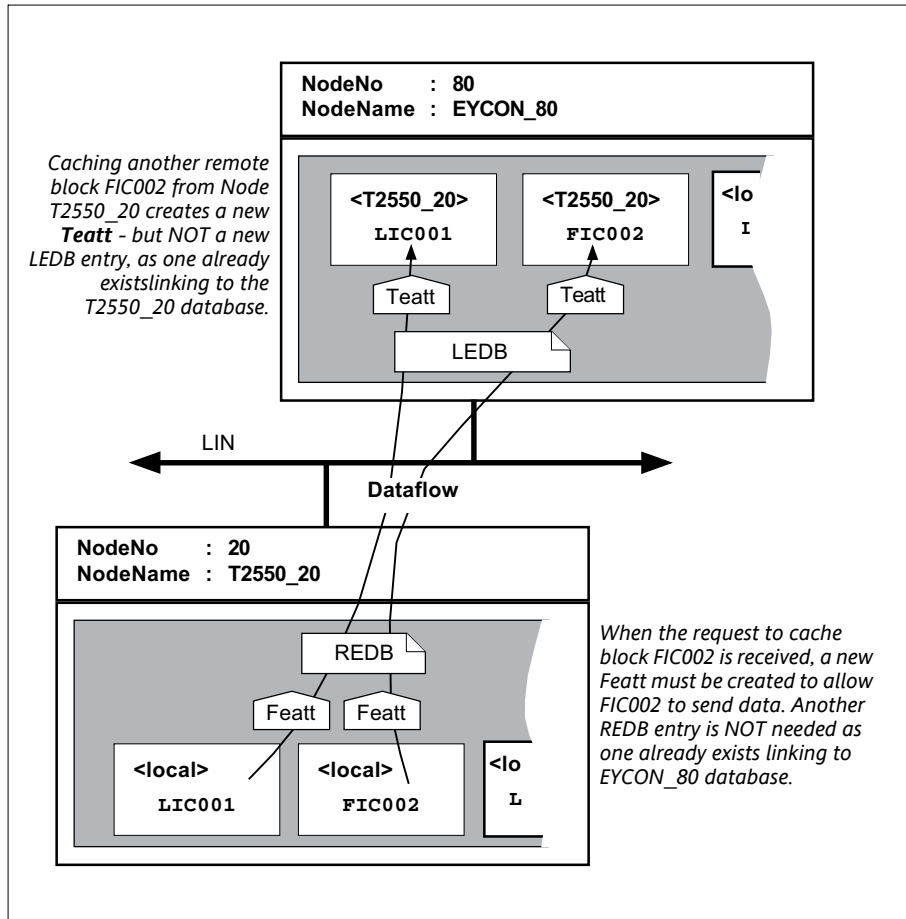

Figure 128 Caching a second block between the same databases
3. Caching a second block between the same databases (*Figure 128*)
In *Figure 128*, EYCON’s database has been configured to cache another block (FIC002) from the same remote T2550 node. This creates a second Teatt, but a further LEDB entry is not needed because one already exists linking to the remote T2550 database. This LEDB can be shared by all blocks cached between the two nodes.